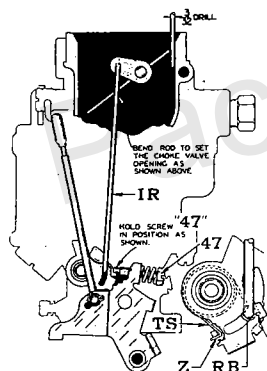

Fig. 13—(Left)—Method of Checking Amount of Choke Valve Opening During Fast Idle Operation
**Throttle Stop Screw**—Normal or warm idling speed is controlled by stop screw "47", Fig. 13. Adjust screw to produce a car speed of not less than 6 miles per hour with a warm engine and wide open choke valve.
Hold stop screw "47" on high lobe of fast idle cam as shown in Fig. 13 and using enough finger pressure to remove slack from linkage, move choke valve towards closed position. If the distance between edge of valve and air horn is not  $\frac{3}{32}$ " when checked with a drill of this diameter, bend upper end of fast idle rod "IR" until this dimension is obtained. Bend rod carefully to avoid binding the fast idle cam mechanism.